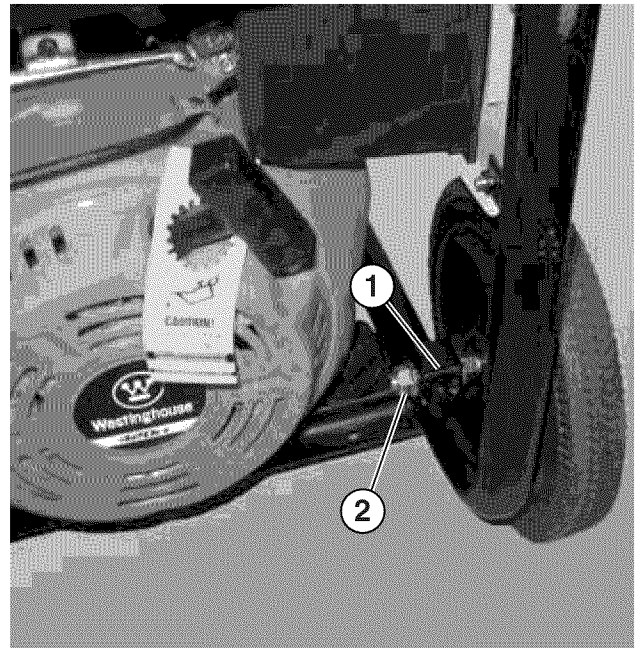

Figure 9 – Assemble Wheels to Frame
7. Install the wheel with bolt through the axle bracket on the frame (see Figure 9).
8. Install the serrated flange nut and tighten (see Figure 9).